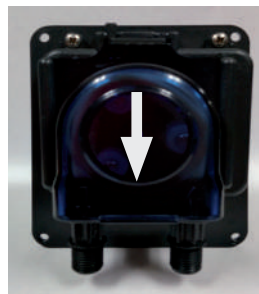

Figure 5.
2. Align tube housing cover with track and slide over tube to seat the cover in place. See Figure 5.